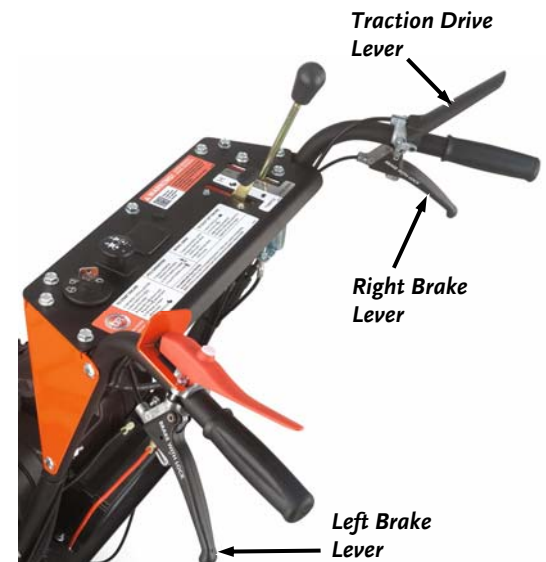

Figure 21
2. Press down on the Traction Drive Lever to drive the machine (Figure 21).